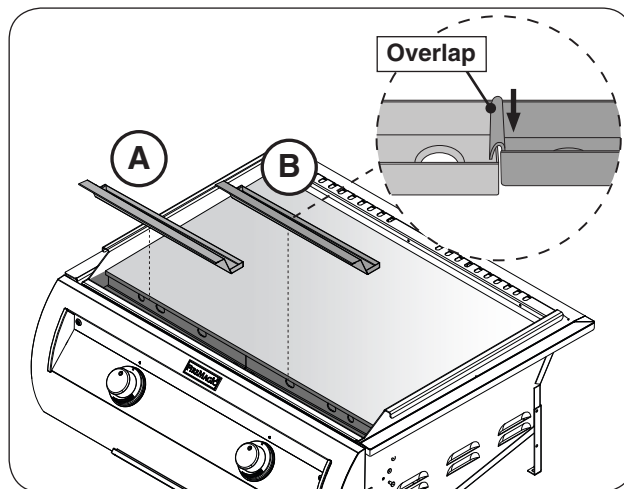

Fig. 23-1 Install drip collector trough
1. Place the left piece inside the griddle drip reservoir and completely slide it to the left side (see Fig. 23-1,A).
2. Place the right piece and ensure it overlaps the left tray as shown in Fig. 23-1, B.